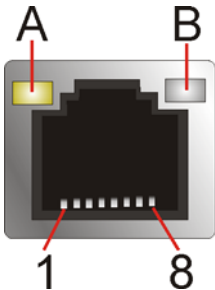

Figure 3-26: LAN Connector
- CN Pinouts:See Figure 3-26 and Table 3-23